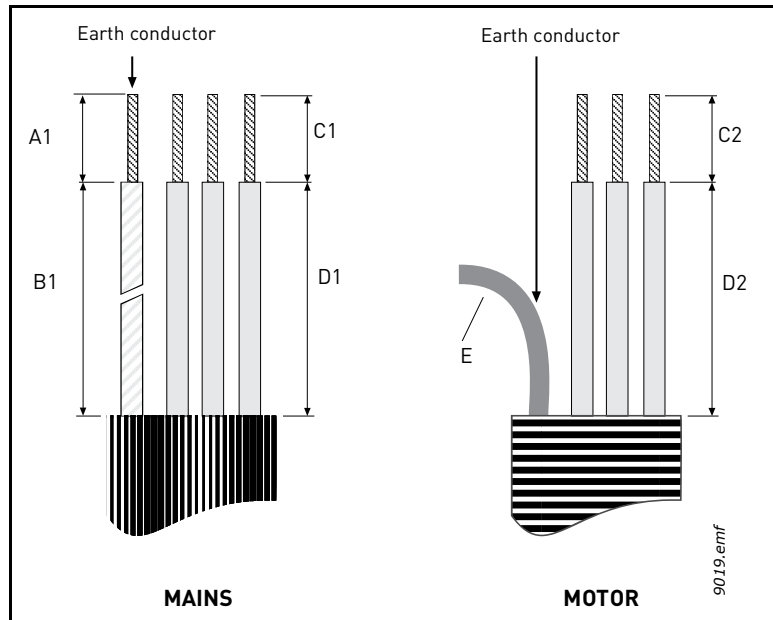

Figure 32. Stripping of cables
**10** Connect the cables stripped as shown in Figure 32.